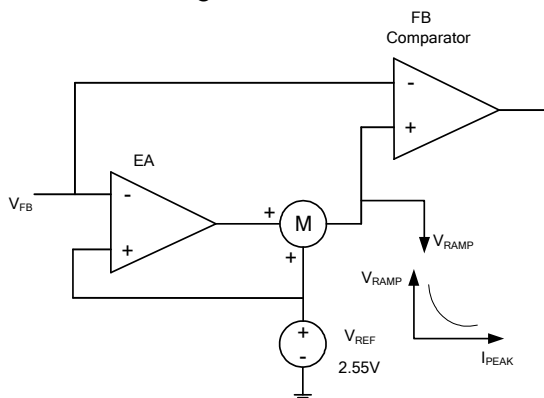

Figure 4: EA and Ramp Compensation Ramp Compensation
The MP171A has an internal error amplifier (EA) compensation loop (see Figure 4). It samples the feedback voltage $6\mu s$ after the MOSFET turns off, and regulates the output based on the 2.55V reference voltage.
An internal ramp compensation circuit improves the load regulation. An exponential voltage signal is added to pull down the feedback comparator's reference voltage (see Figure 4). The ramp compensation is a function of the load conditions; the compensation is about $1mV/\mu s$ under full-load conditions. The compensation increases exponentially as the peak current decreases.